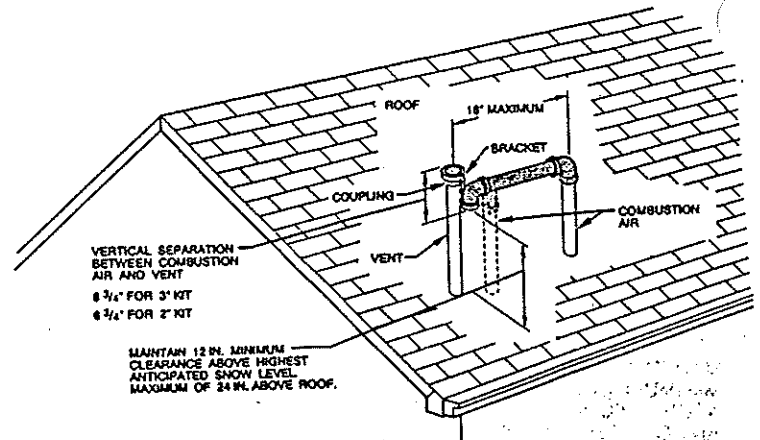

Figure 30 - Roof Termination (Preferred)
Combustion-air and vent pipes must terminate outside structure. A factory accessory termination kit must be installed in 1 of the installations shown in Fig. 30, 31, 22, 33, and 34. Four termination kits are available:
**NOTE:** Shaded parts in Fig. 30, 31, 22, 33, and 34 are considered to be termination. These components should NOT be counted when determining pipe diameter.
**NOTE:** Roof termination is preferred since it is less susceptible to damage, has reduced changes to intake contaminants, and has less visible vent vapors. See Fig 30 or 31.
**ROOF TERMINATION:** Loosely install pipe coupling on properly cut vent pipe. Coupling must be positioned so bracket will mount as shown in Fig 30.
For applications using combustion-air pipe option, indicated by dashed lines in Fig. 30 install 90° street elbow into 90° elbow, making U-fitting. A 180° U-fitting may be used.
5. Check required dimensions as shown in Fig 30, 32, or 33.